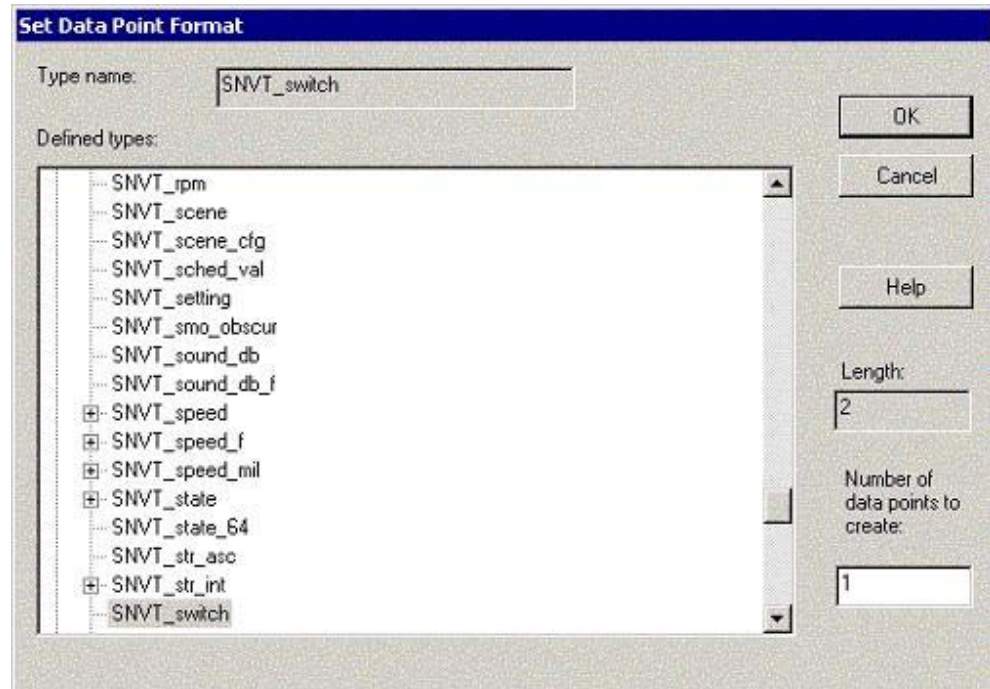

Figure 11.3 Set Data Point Format Dialog
4. Click the **Add** button under **Input Format Type**. The **Set Data Point Format** dialog appears, as shown in Figure 11.3.